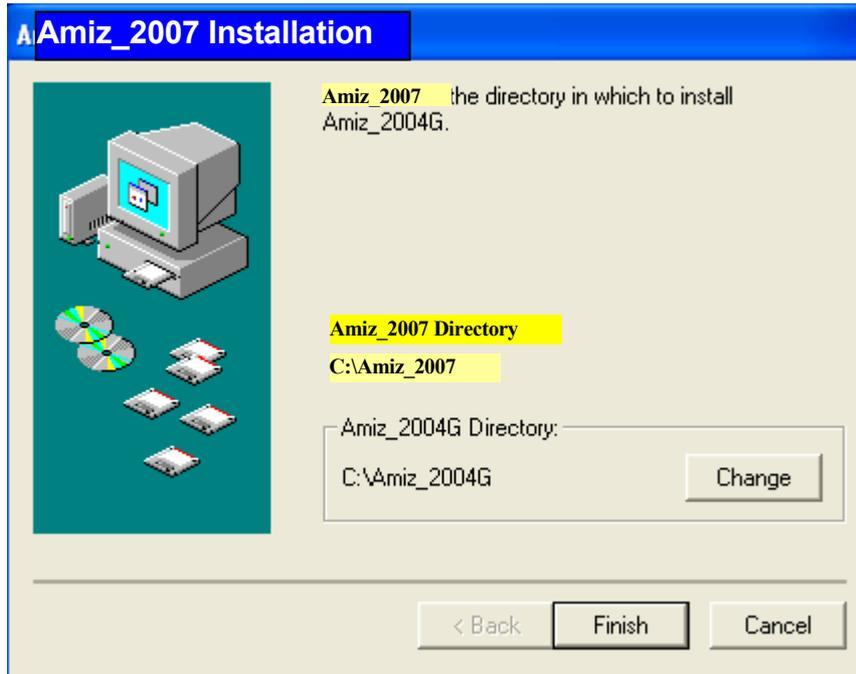

Fig. 1. Dialog box for selection of the directory in which the program is to be installed
- 1) After the installation program is initiated, a dialog window is displayed allowing for selection of a directory in which the program is to be installed (Fig. 1 key Change – the default directory is "C:\Amiz_2007")